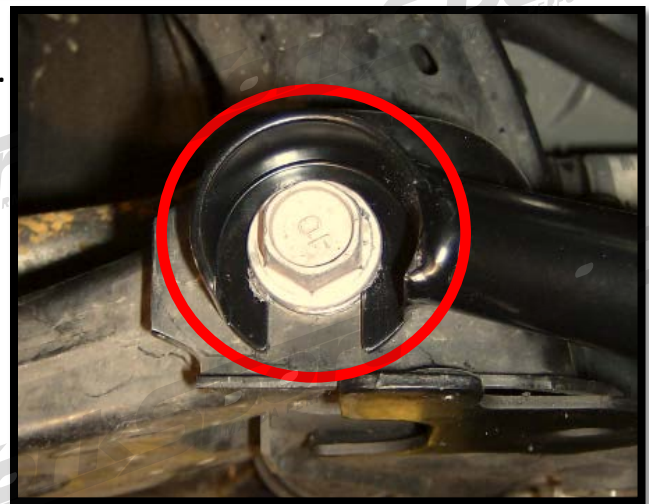
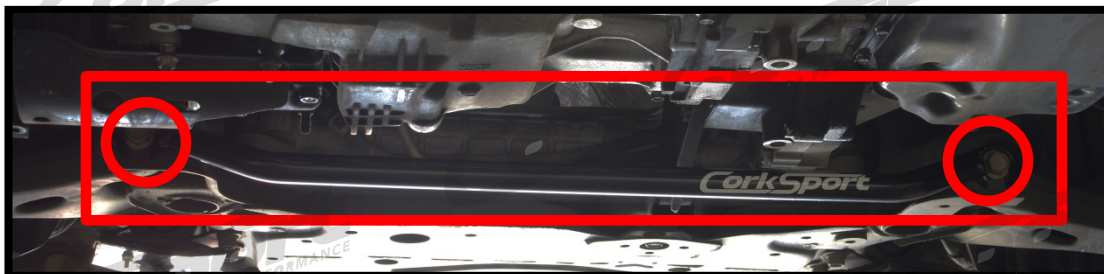

Figure 1a
Figure 1c
b) Locate and loosen the front control arm bolts just enough to slide the CorkSport Lower Arm Bar into place. Figure 1a shows one of the two bolts that need to be loosened and how the bar will sit when you slide it in place. Figure 1c also shows the bar and the two bolt locations circled in red.